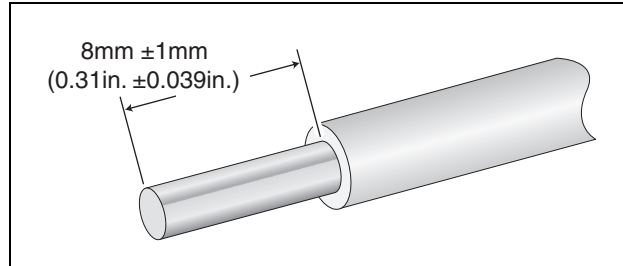

Figure 34. Stripped Wire
4. With a 14-gauge wire-stripping tool, strip the three wires in the tray cable coming from the DC input power source to $8\text{mm} \pm 1\text{mm}$ ($0.31\text{ in.} \pm 0.039\text{ in.}$), as shown in Figure 34 on page 75.